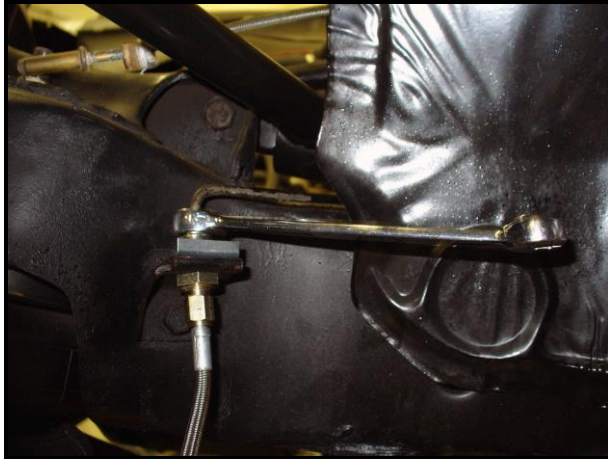

Figure 1: Line wrench on hardline
1. Disconnect the fluid hose at the frame and cap with the supplied vinyl caps. Using pliers or channel locks, remove the hose lock and slip the hose end out of the frame bracket. See Figures 1 and 2, below.